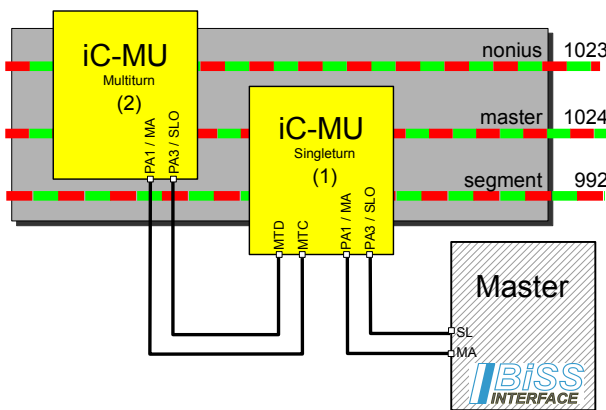

Figure 42: 3-track nonius with 2 iC-MU
The construction of such a system is shown as an example in Figure 42 and the configuration in Table 68.
Table 68: Configuration example for the 3-track nonius system of Fig.42
To facilitate the initial configuration of an iC-MU as a SSI multiturn device the command SWITCH can be used (see page 58). The singleturn iC-MU (1) in Figure 42 has to enable the direct communication to the multiturn sensor by setting GET_MT to 1. The configuration of iC-MU (2) can take place using the BiSS protocol. After the configuration of the external multiturn MODEA_NEW and RPL_NEW are used to set the target configuration of MODEA and RPL. After that the